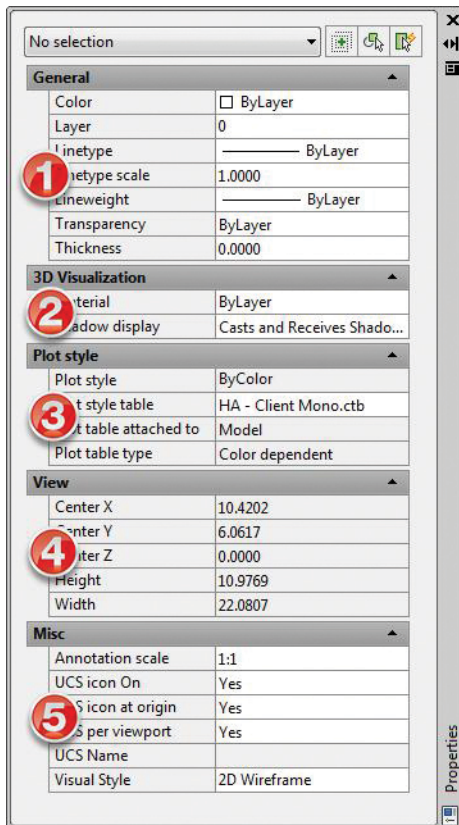
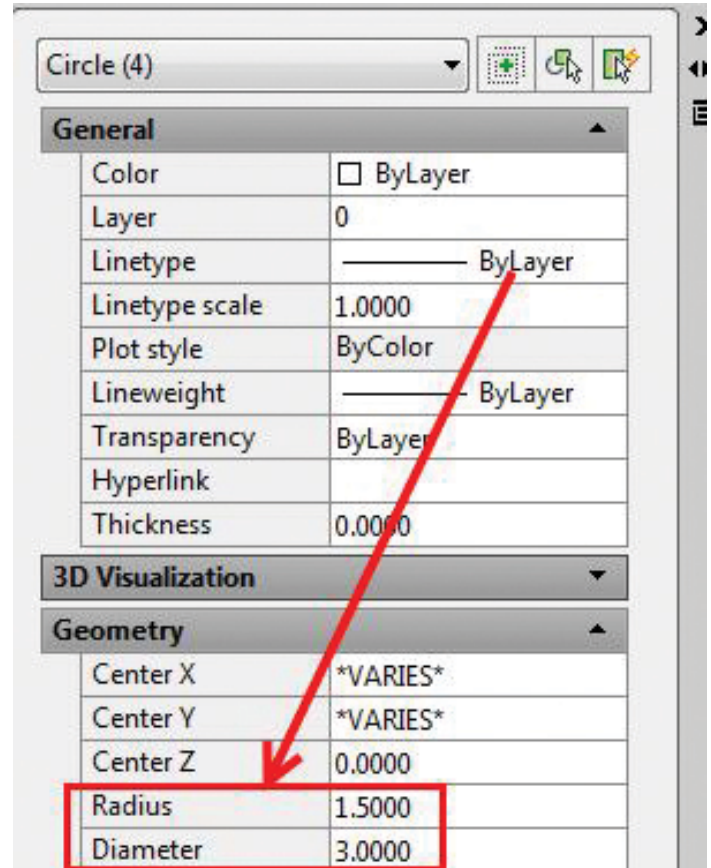

Figure 3: The default palette
Figure 4: The properties of a circle
Figure 3 shows an overall view of the Properties palette with nothing selected. This will give you the properties within your current drawing file. When you select an object, the palette will change to display the features that you can edit for that selection. Take a look at the sections labeled 1-5 in Figure 4 shown below.
Let's review some different objects in AutoCAD to see how we can use the palette to our advantage. In our first example we selected four circles by picking each one or using a window. Notice how in the object selection bar you have Circle shown with a (4) in parentheses. If you have other types of objects you can scroll down and view the objects and how many you have. We are now going to change the diameter of all the circles to 3. Simply change the value in the section shown below (radius or diameter) and all of your objects will be updated to reflect the new value as shown in Figure 4.